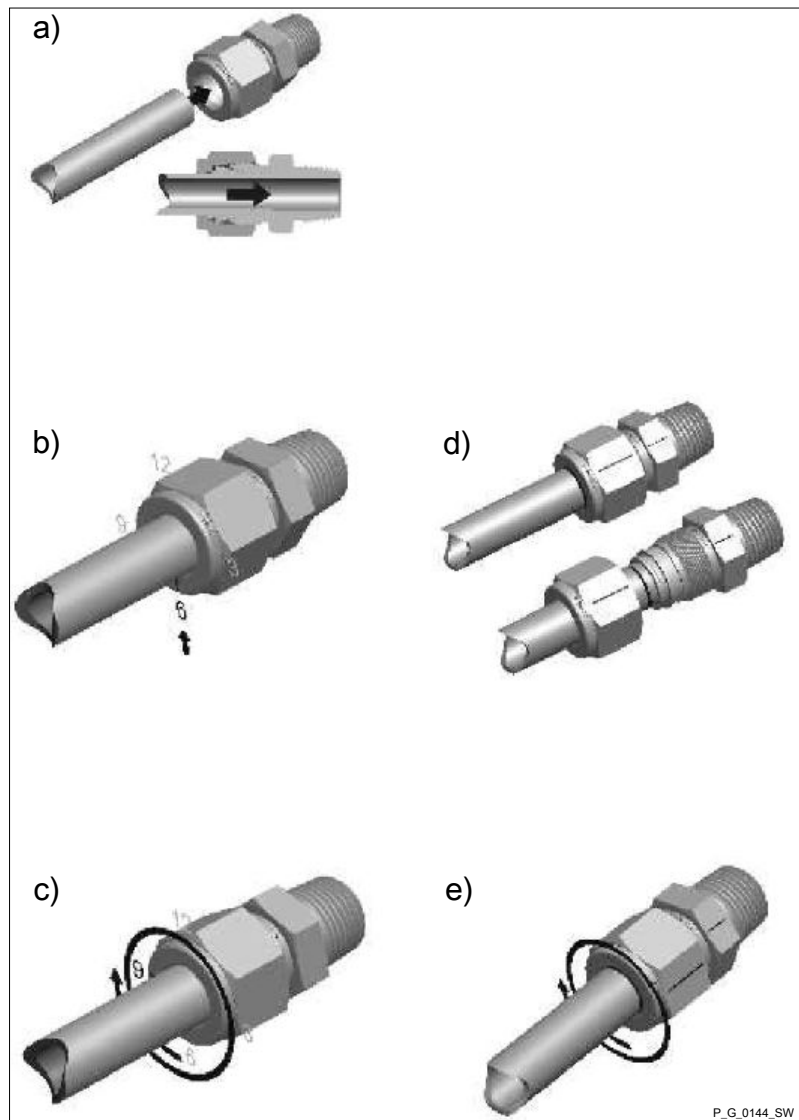

Fig. 8
2. ➤ Insert the pipe into the valve as far as the stop - a threaded connector is shown in the following drawings instead of the valve - see Fig. 8 a).
4. ➤ Mark the union nut at the 6 o'clock position - see Fig. 8 b).
5. ➤ Use an open-ended spanner to counter hold the valve housing and use another open-ended spanner to tighten the union nut 1 1/4 revolutions to the 3 o'clock position - see Fig. 8 c).
1. ➤ Prior to disassembly: Draw a line over two adjacent width flats of the union nut and valve - see Fig. 8 d).
2. ➤ When re-fitting: Insert the pipe with the clamp rings into the valve body until the front clamp ring is sitting in the valve - see Fig. 8 d).
3. ➤ Use an open-ended spanner to counter hold the valve housing and use another open-ended spanner to tighten the union nut to its final position, indicated by the two lines on the pipe and valve (the resistance will increase noticeably at this point - see Fig. 8 e)